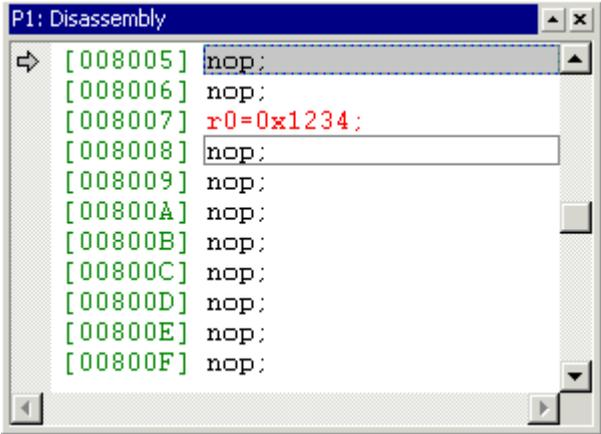

Figure 3-41. Disassembly Window: Patching a New Instruction into Processor P1’s Memory
3. Type the instruction `r0=0x1234` and press **Enter**. The instruction is written into P1's memory, and the Disassembly window is updated as shown in Figure 3-41 to reflect this new instruction.